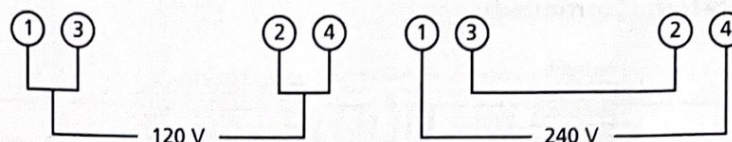

Figure 4 - Wiring Schematic for Motor
Refer to Figure 4.
6. To operate drill press at 240 volts, rewire motor as shown in Figure 4 and replace line cord plug with a 240 volt, 15A, 3-prong plug. If motor label has a different wiring configuration, use the motor label diagram to rewire motor.